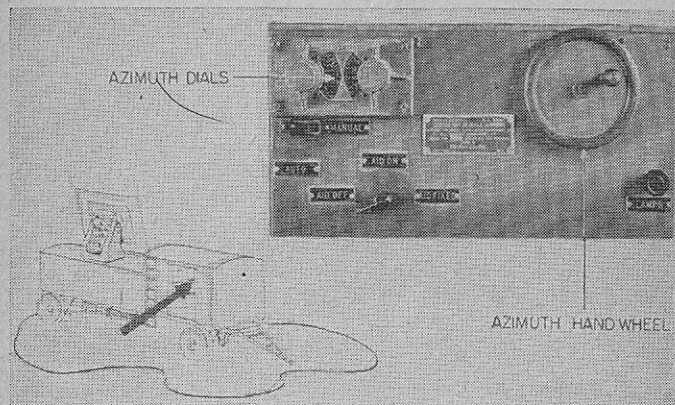

FIGURE 13.—Azimuth control unit panel.
c. Figure 13 shows the front panel of the AZIMUTH CONTROL UNIT. A brief description of the dials and controls is as follows: